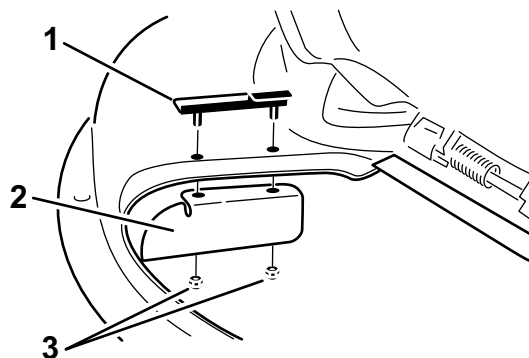

Figure 13
2. Install the cutoff baffle to the clip assembly posts. Figure 13. Use the two lock nuts (5/16 inch) to secure the baffle to the mower.